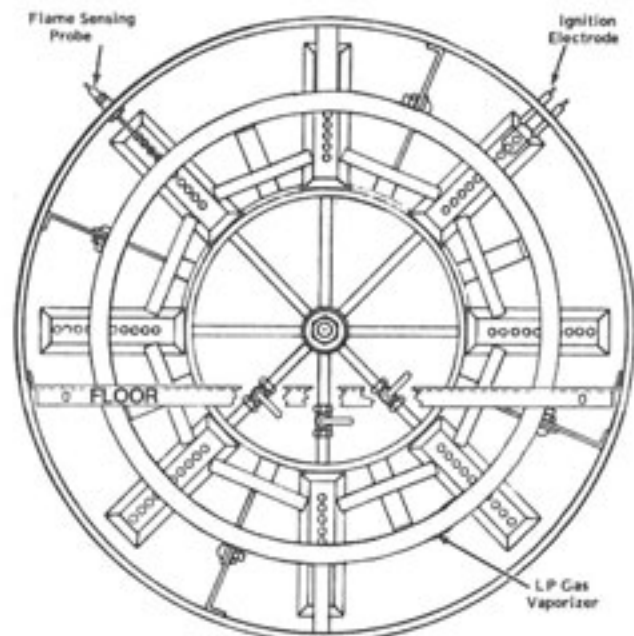

Figure 34
7. LP Gas - Remove the plug at the end of each strainer, see Figure 34. Remove and clean the screen in each strainer. Check flexible LP hoses for signs of fatigue, replace as necessary.
The direct spark ignition system consists of an electronic ignition board, a direct spark ignition electrode and a remote sensor, Figure 34, for each burner. For ignition to occur, the dryer must be running and the High Limit and Air Pressure lights on the control panel must be on.